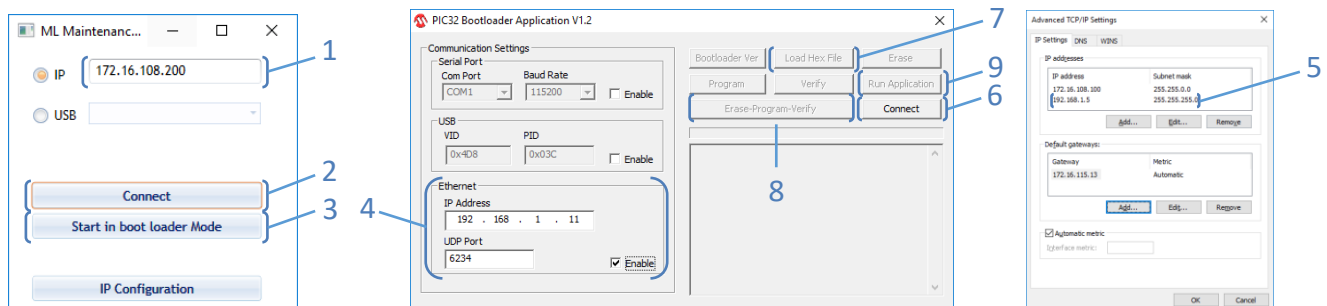

Figure 4: Firmware Update Using Ethernet Cable
4. Add a same range IP address in your PC settings, under Advance TCP/IP Settings e.g. 192.168.1.5 (see Figure 4)